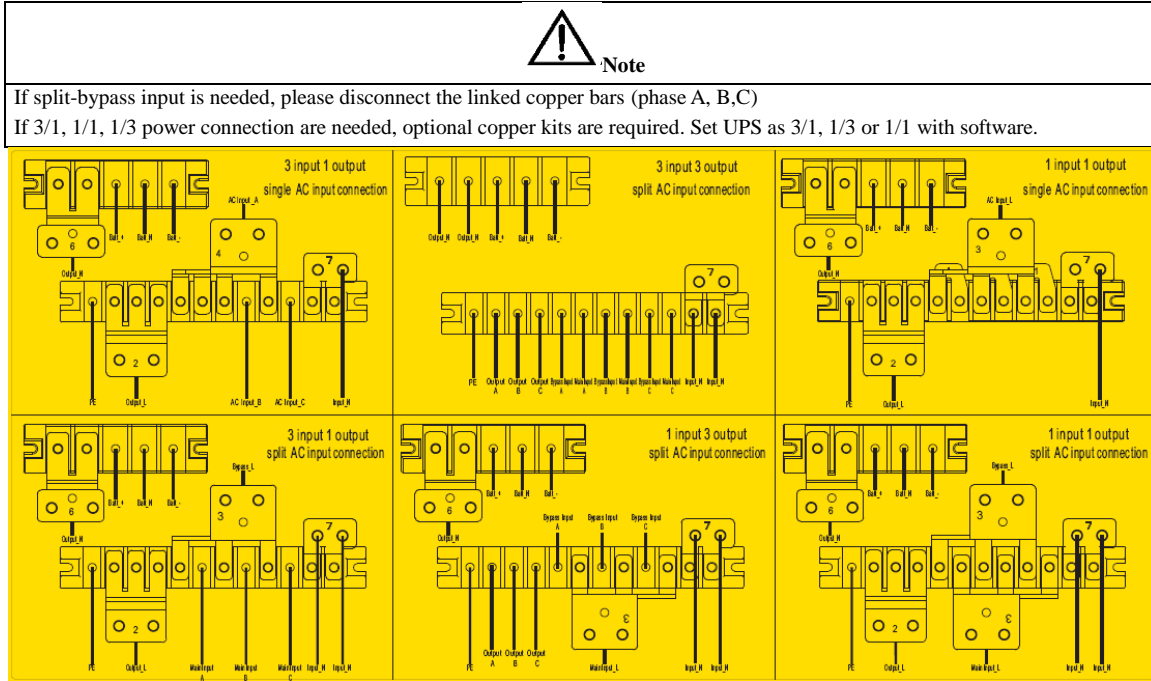
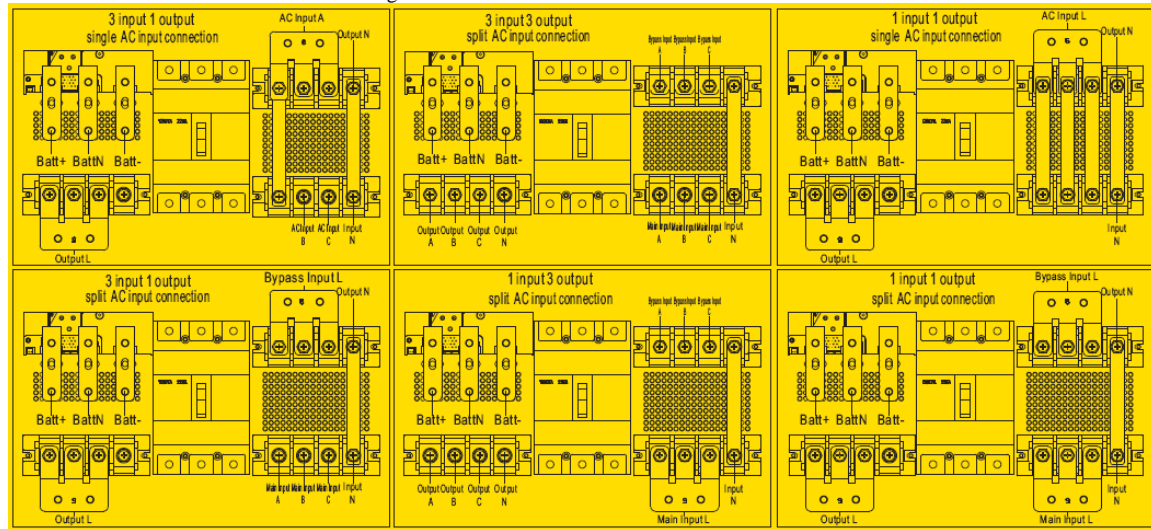

Fig.B- 1: Power Connection of 2 slots and 4 slots
Fig.B- 2: Power Cables Connection of 6 slots cabinet
Fig.B-1 and Fig.B-2 illustrate the power connection of modular UPS in what are known as the 3/3, 3/1, 1/3 and 1/1 configuration.
- **3 phases in, 3 phases out** (common input) is default setting. If need **3 phases in, 3 phases out (split bypass input)**, remove connecting copper bars between bypass and main input as Fig.B-1 and Fig.B-2.
- If need to set UPS as **3 phases in, 1 phase out**, connect cables as Fig.B-1 and Fig.B-2 as needed. Then set UPS with software as below:
- If need to set UPS as **1 phase in, 1 phase out**, connect cables as Fig.B-1 and Fig.B-2 as needed. Then set UPS with software as below:
- If need to set UPS as **1 phase in, 3 phases out (split bypass input)**, connect cables as Fig.B-1 and Fig.B-2 as needed. Then set UPS with software as below: